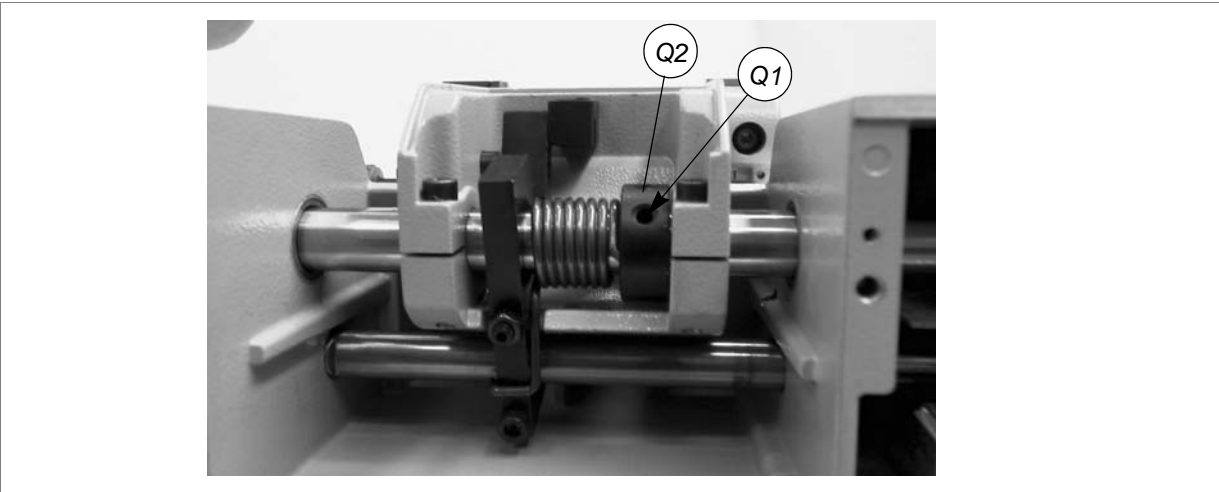

Fig. 41
- 12) Loosen the grub screw (Q1) on the spring ring nut (Q2) (fig. 41, page 28).